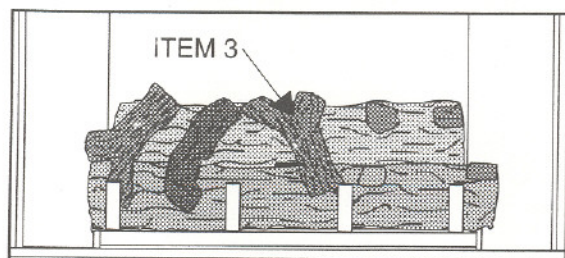

Figure 28
6. See Figure 28. The remaining "Y" Log (Item 3) is installed next. This time the straight portion of the log lies on the front log on the indentation near the center. Angle this log slightly to the left and rest the "Y" portion on the indentations located near the center of the Back Log.